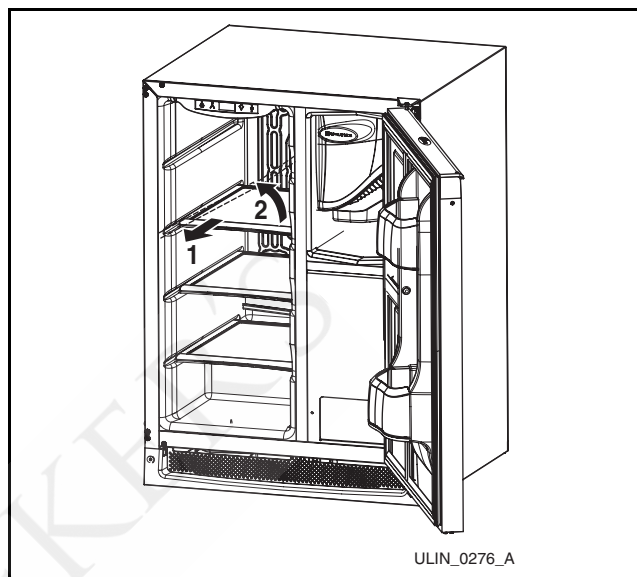

Figure 40
1. Pull shelf out about 6" (**Figure 40**) until back of shelf clears the "hump" on the right-hand side.
2. Tilt right-hand edge of shelf up. Remove shelf from unit by pulling out (**Figure 40**).